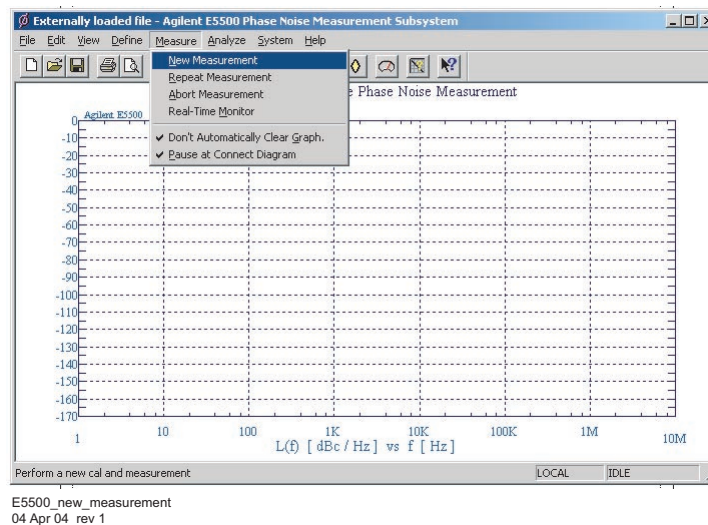

Figure 42 Selecting new measurement
- 1 From the **Measurement** menu, choose **New Measurement**. See Figure 42.
- 2 In the **File Name** box, choose “**Conf_8644B_10MHz.pnm.**” See Figure 42.